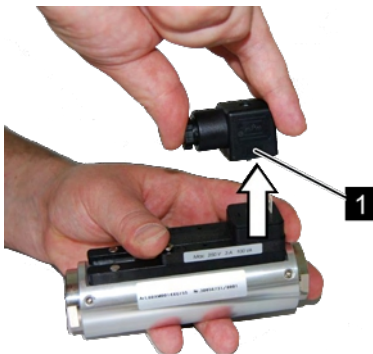

Fig. 58: Remove the female socket
2. ➤ Remove the female socket and gasket (Fig. 58/1) by pulling upwards